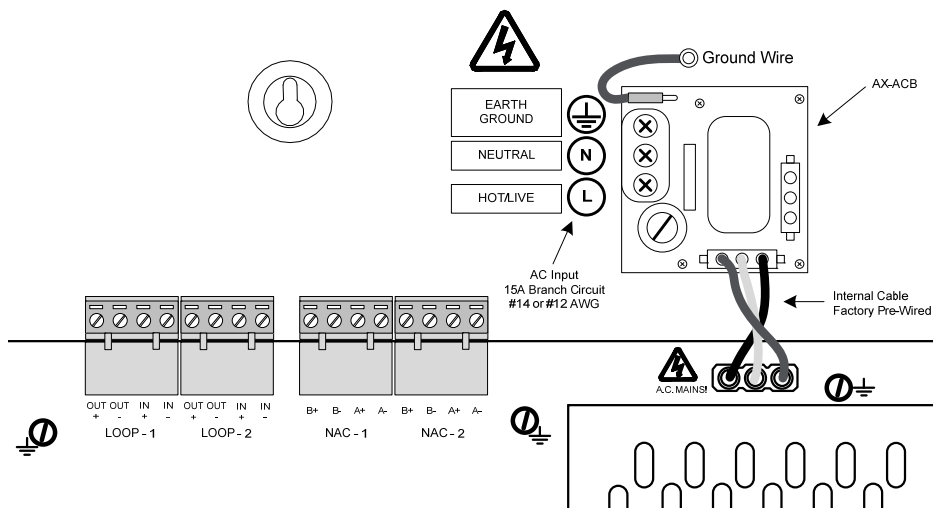

Figure 4 - AX-ACB AC Board
The AX-ACB AC board is the AC interface board for the Axis^{AX} Intelligent Fire Alarm Control Panel. The AX-ACB is pre-mounted to standoffs on the rear of the back box above the AX-CTL base card (see figure 4).
If replacing the AX-ACB AC board, remove power (AC and battery) from the system. Remove all Molex connector plugs and the green ground wire plug from the AX-ACB board. Remove the four (4) screws holding the AX-ACB board to the back box (see figure 4).